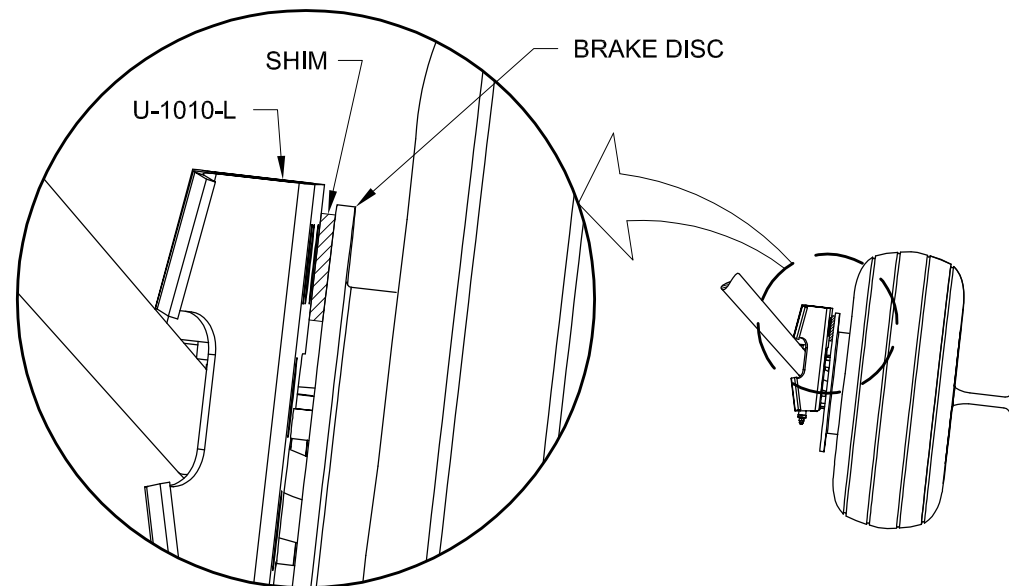

FIGURE 1: SHIM MAIN WHEEL FAIRING BRACKET
Step 1: Fabricate a 1" wide shim approximately 1/4" thick (not provided in kit) and position it temporarily between the brake disc and the U-1010-L Main Wheel Fairing Bracket to keep it from deflecting excessively when drilling through from the outside of the fairing as shown in Figure 1.